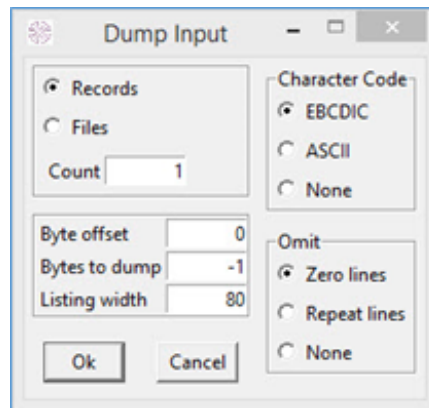

Figure 3-8 Read Input
1. **Click** on the **Dump** button. Select Input (**Input2/Output**). A Dump Input box will open Figure 3-8 below.